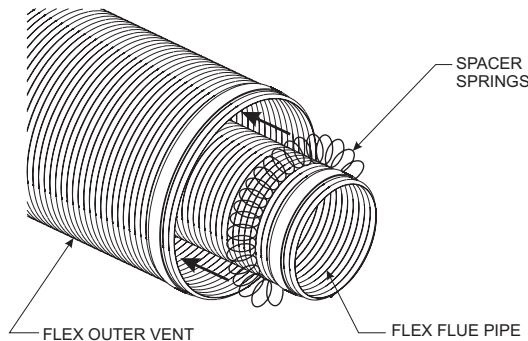
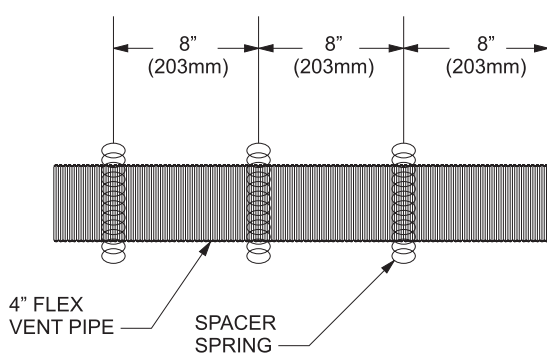

Figure 42
Figure 43
2. Check to see that the vent spacer springs are located around the flue vent at 8" and 12" intervals along its length. See Figure 42. If not, stretch the spacer springs to about 15" long and wrap them around the flue, then interlock the ends of each spring about 2". See Figure 43. Maintain equal distance between spring spacers.